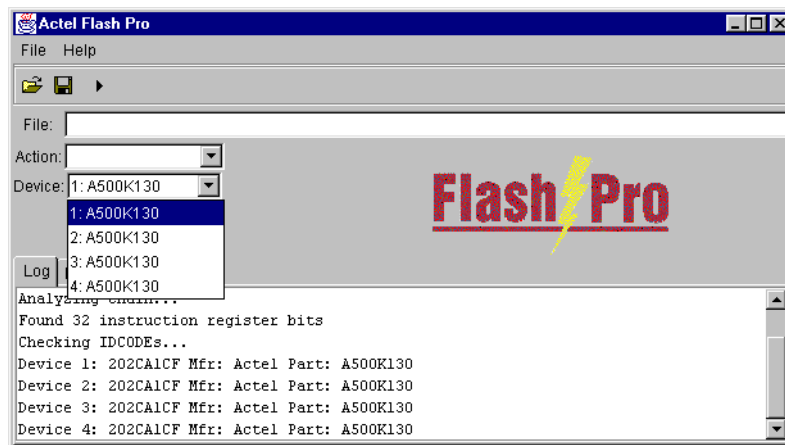

Figure 2-5. FlashPro: Device Selection
2. **Select your devices.** In the Device list, select your device before you perform any action. If you have only one device in the chain, performing Analyze Chain selects that device automatically from the Device list. If you have multiple devices in the chain, you must select a device as shown in Figure 2-5.
**Note:** The first device, selected in Figure 2-5, is the device that is nearest to TDO of the programming header.